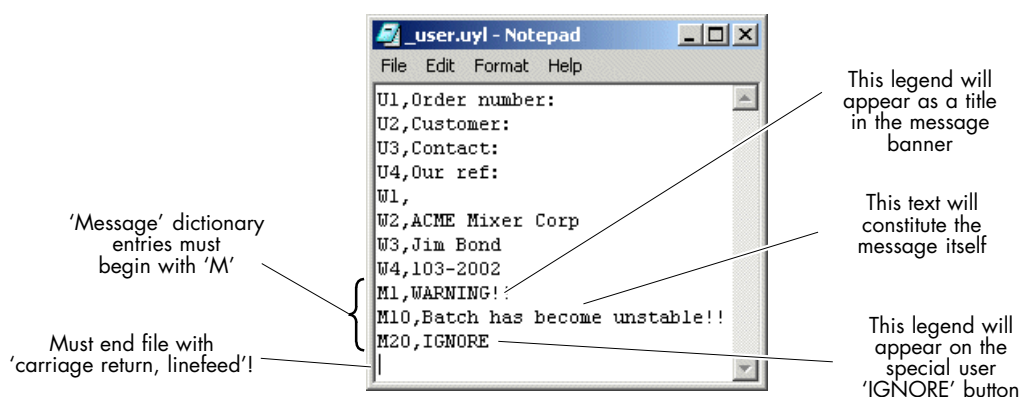

Figure 7-8 The modified user dictionary ‘_user.uyl’
You will recall that you specified several *user dictionary* references when you were parameterising the PNL_MSG block in the LIN database (see Figure 7-8). These dictionary items were to appear in an operator message. You must now add these references to the existing user dictionary — stored in the file ‘_user.uyl’ — so that they can be accessed when the application is run.
- 2 Add three lines to the end of the existing text, referring to Figure 7-8. Note that they all begin with ‘M’, which tells the system that these are for *messages*. The number after the ‘M’ is as usual the reference number of the text string following the comma.